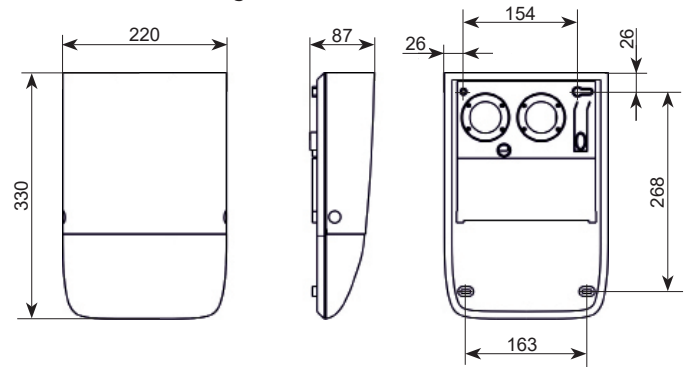

Figure 5
11.1 Choose a place for installation, mark places for the Siren fixation (Figure 5). Use the Siren case as a template for marking.